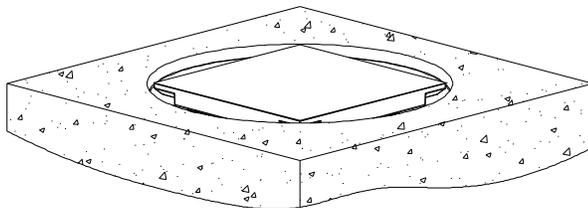

Fig. 13S
13. Turn head assembly clockwise until top of strainer is flush with the finish floor. See Fig. 13S